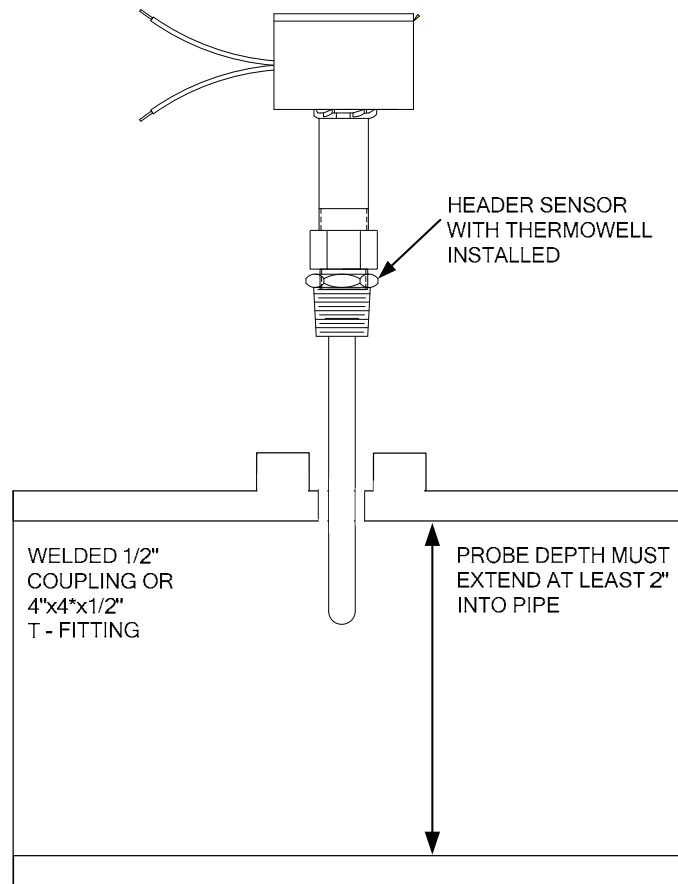

Figure 2-3. Header Sensor Installation Details
1. Refer to Figure 2-3 for the Header Sensor installation details.
As mentioned in paragraph 2.5, the Return Sensor is identical to the Header Sensor. Therefore, if a Return Sensor is being installed, another Header Sensor Kit (part no. 122790) is required. The Return Sensor should be installed in the boiler water return line within 3 feet of the first boiler in the boiler plant's return water line. The installation details shown in Figure 2-3 for the Header Sensor also apply to the Return Sensor. If used, install the Return Sensor as follows:
1. Refer to Figure 2-3 and install the Return Sensor and Thermowell into the 1/2 inch tapped coupling or Tee fitting using heat conductive grease.